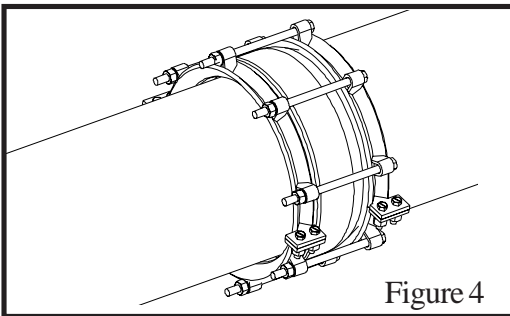

Figure 4
- Install bolts and nuts in loops, hand tighten. Be sure that all components are in alignment. Nuts should be located on spigot end. (See Figure 4)